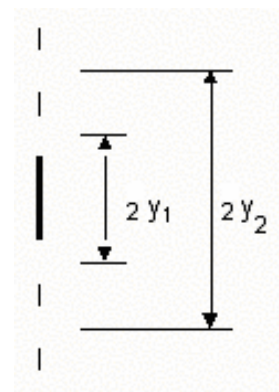

Fig. 11. Interference
6. Move the laser so it is incident on the next widest single slit ( $d = 0.04$  mm). Measure the diffraction pattern for this slit. To do this, measure from the dark band on one side of the center to the dark band on the other side of the center light band (see Fig. 11). This will give you  $2y_n$ . Measure for three different bands and record in Table 4-1.